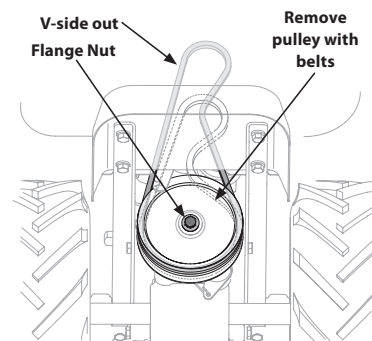

Figure 21
- Remove the flange nut securing the transmission drive pulley, then remove the pulley along with the two belts. See Figure 21.